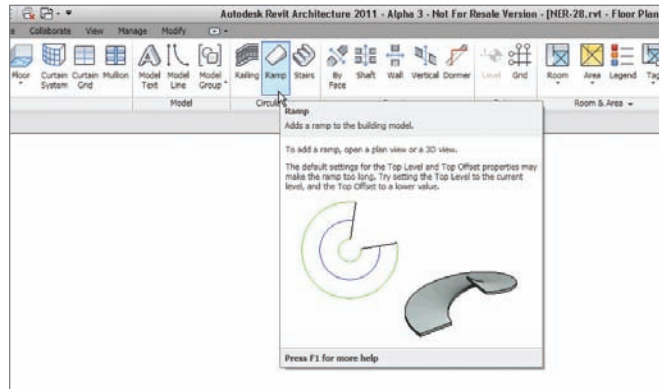

FIGURE 10.82 Click the Ramp button on the Home tab.
1. On the Home tab, click the Ramp button, as shown in Figure 10.82.